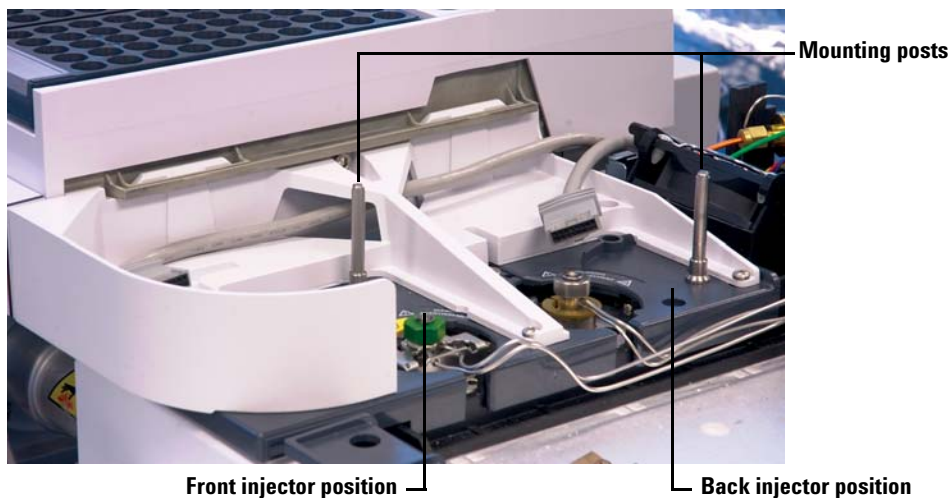

Figure 11 Installing the mounting post(s) on a 7890A GC
- **7890A GC, 7820A GC, and 7820 MSD.** Install into the inlet cover in the front or rear location, as desired. The post must be turned all the way down (Figure 11).